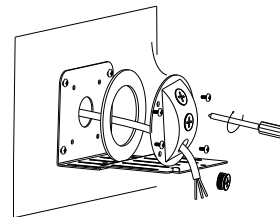

Figure 3-4
4. Pass wires through rubber ring and junction box, align with holes and lock junction box. (Figure 3-4)